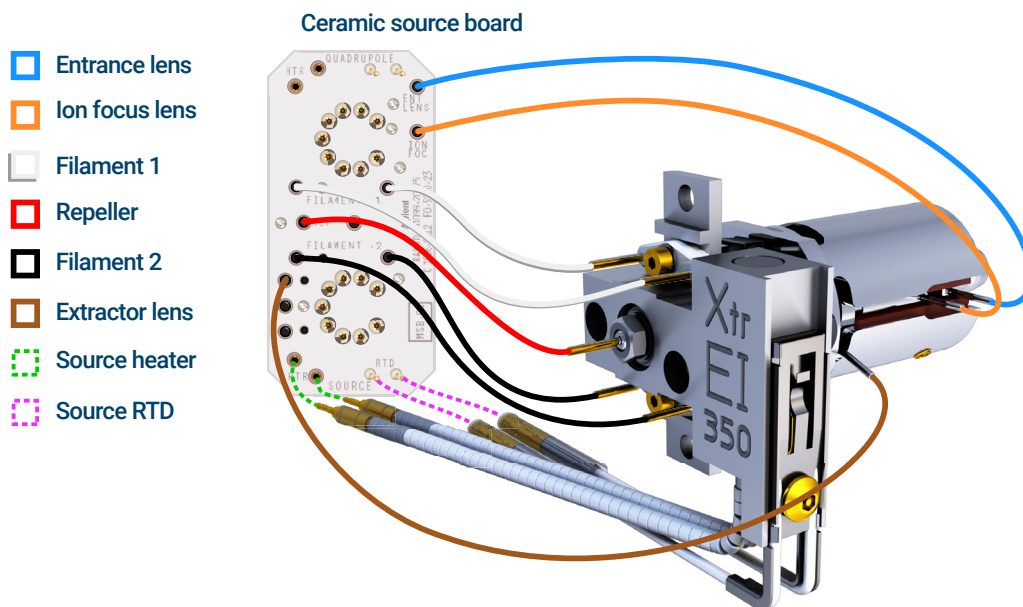

Figure 51. Wiring for the EI XTR
- 2 Use tweezers or pliers to connect or disconnect the source heater wire leads at the ceramic source board (CSB). (See **Figure 51**.)